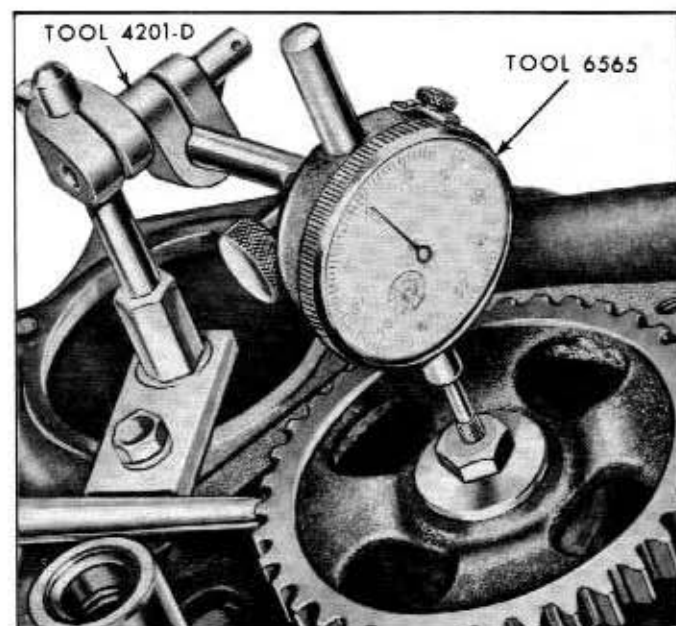

Fig. 6A-83—Checking Camshaft End Play—(60C-5639)
head guide studs, as indicated in figure 6A-77. Remove the remaining cylinder head bolts and remove the cylinder head. **Do not pry between the cylinder head and block as the gasket surfaces may become damaged.**
13. Use a magnet and remove the tappets. See figure 6A-82. **Keep the tappets in the order removed so they can be reinstalled in their original bores if inspection reveals a satisfactory condition.**